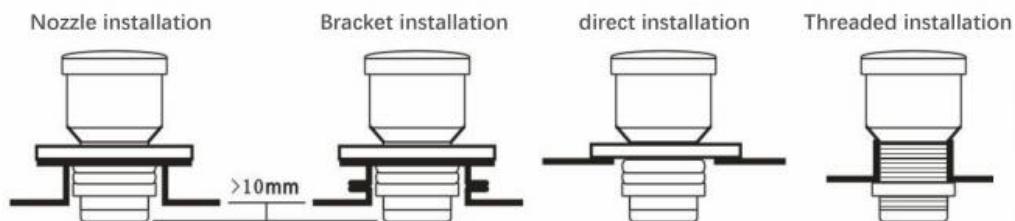

Figure 3
7.1.3 The probe can be mounted either by flange or by standard M60 x 2 thread (the mounting interface is subject to the actual product). Whether flanged or threaded, or with or without the optional tapered barrel, it should be ensured that the bottom of the probe protrudes from the bottom of the process interface. Figure 3 illustrates the proper mounting method.